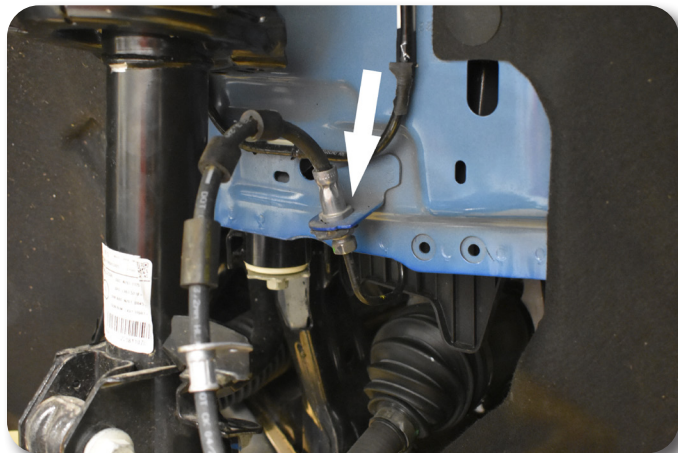

Figure 15
20. In some cases the brake line mounting tab on the body may need to be bent for extra slack in the line at droop. **Figure 15** Torque hardware to 97 in-lbs.